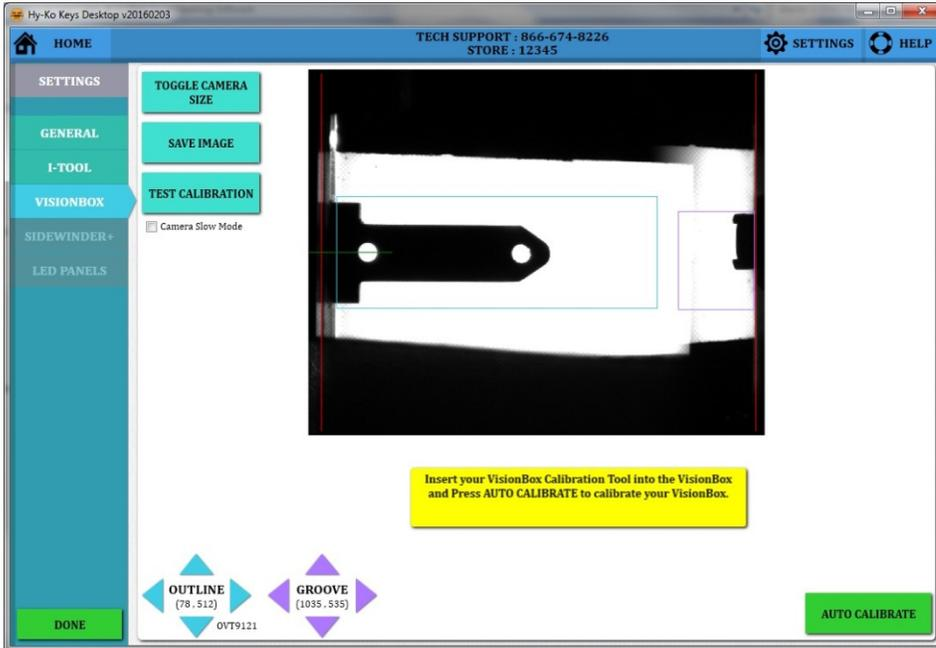

fig. 17
- Once the tool is in the Vision Box and can be seen on the screen click **'AUTO CALIBRATE'** (see fig. 17).